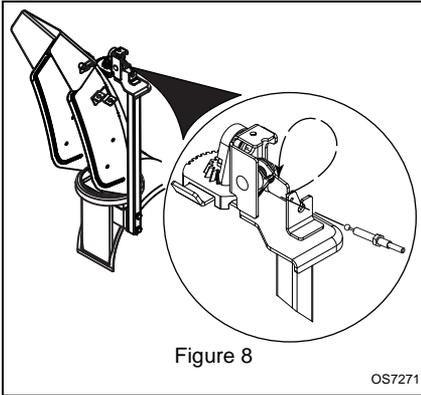

Figure 8
9. Connect the chute lock cable to the lock arm by fitting the cable ball end into the slot on the lock arm and then insert the chute lock cable fitting into the bracket on the chute pedestal (Figure 8).